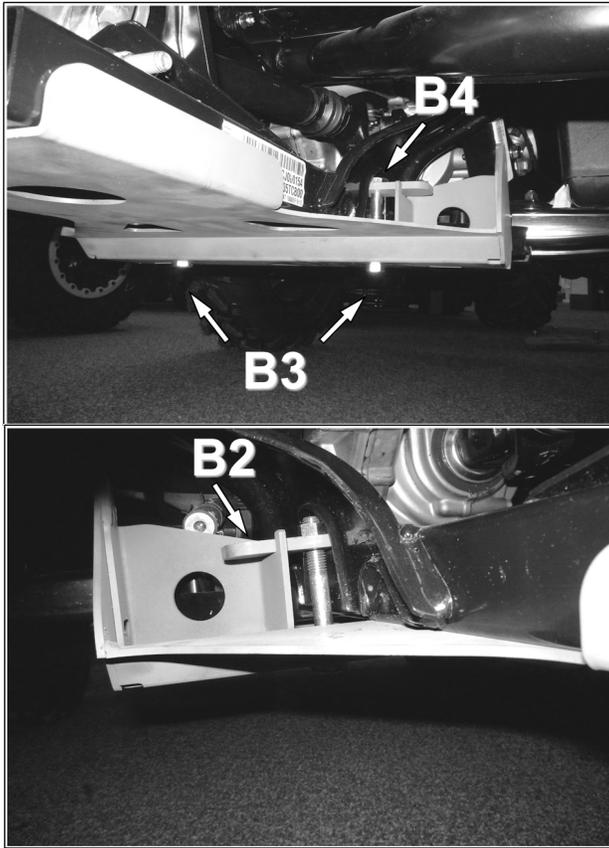

Fig. 4
5. Position the anchor bracket cover (B2) in the opening over the chassis tubing. Lift and pivot the rear main anti-rotation plate in place and insert the two M10x85 mm mounting bolts (B3) through the plate bottom. Secure the plate in position using nylon nuts (B4) over the bracket cover. Tighten these two assembly bolts to 50 N•m [37 lb•ft]. See Fig. 4